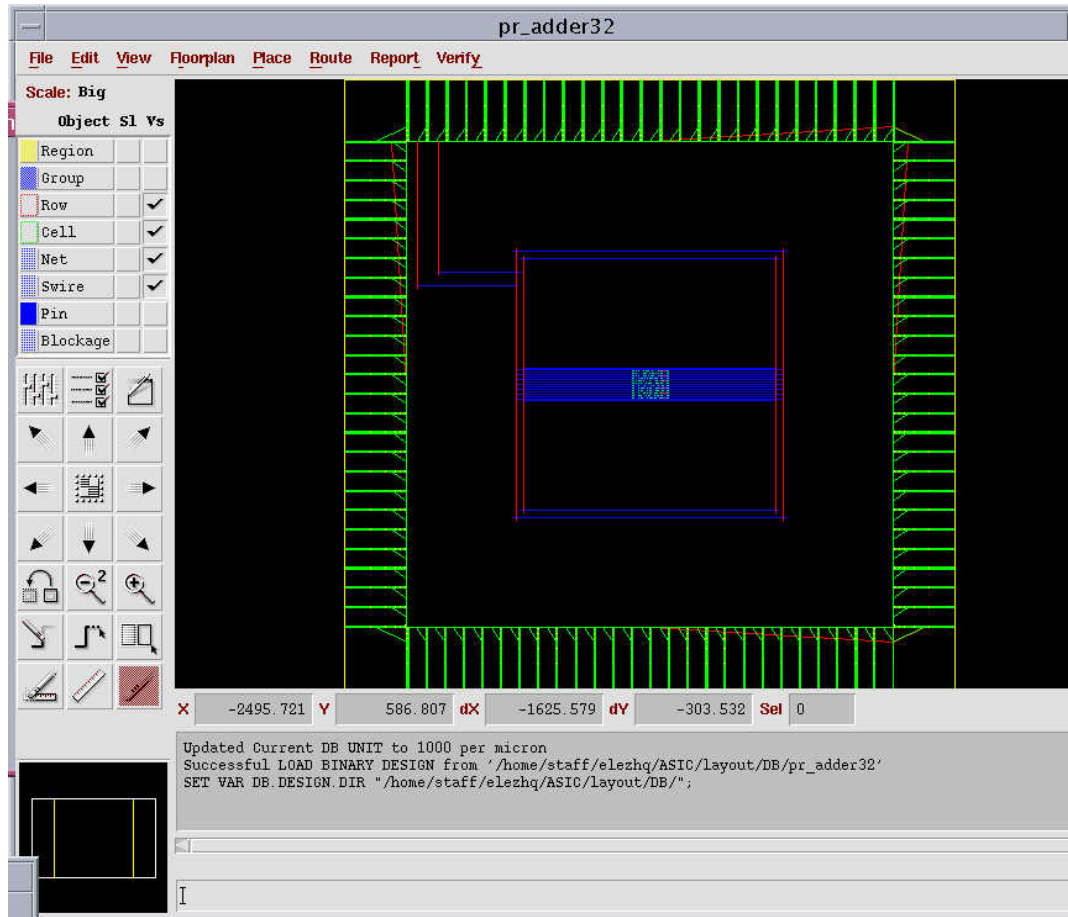

Figure 7-38 Design after connecting power pads manually.
- Repeat step 3 for gnd! pad and gnd! net connection. The design will look as figure 7-38 after connection.